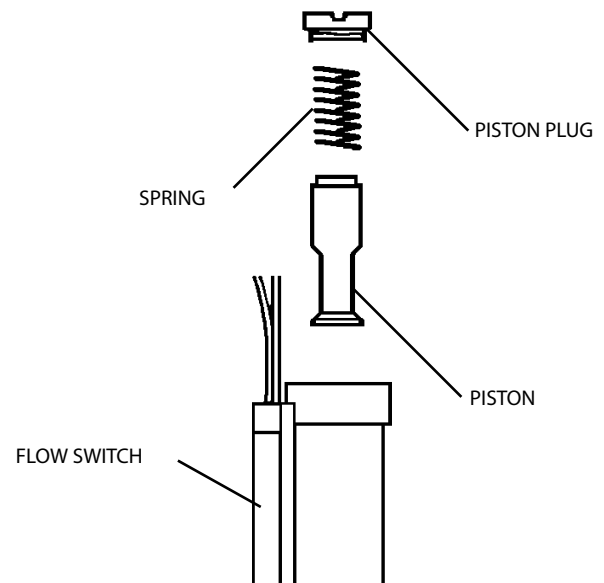

Figure 5-1. Disassembly / Assembly of Flow Switch
5.3 FLOW SWITCH (FIGURE 5-1)
The cause of control malfunctions can be found by referring to the sequence of operations and electrical schematic diagram (Figure 5-1) and checking the various components. A volt-ohmmeter will be necessary for some of these checks.